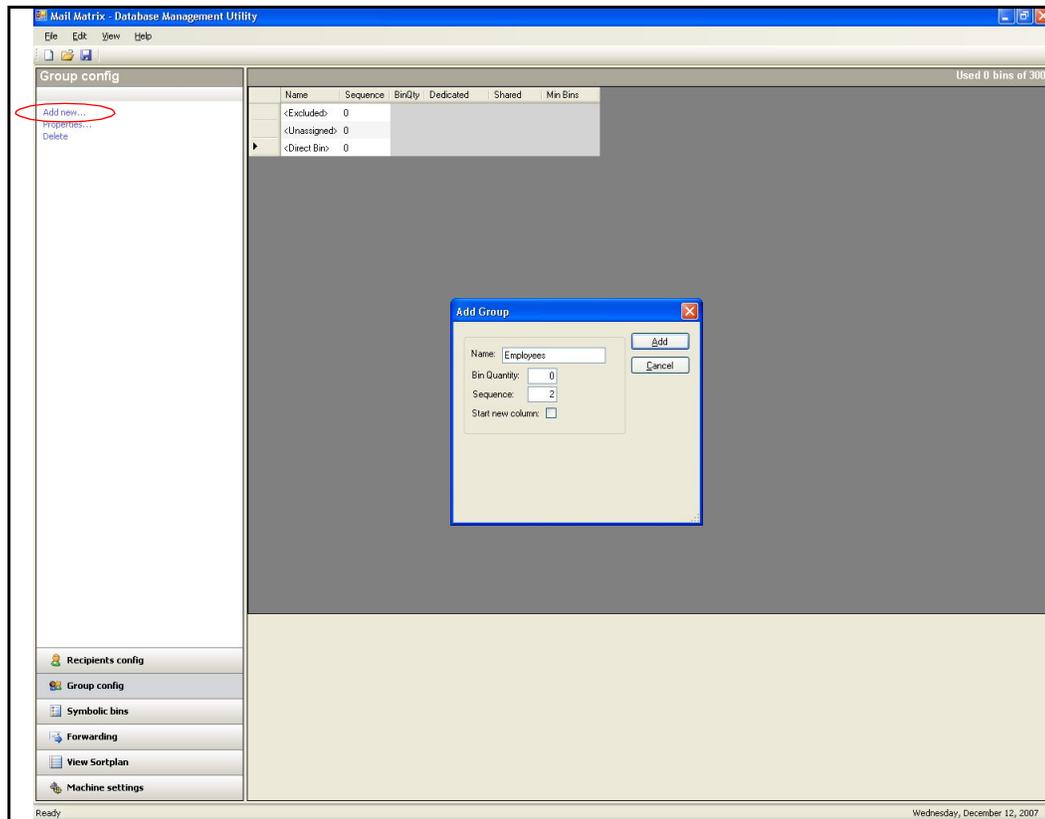

Figure 166: Add new group
2. Click **Add new...** from the menu choices on the left of the screen to bring up the Add Group dialog (Figure 166).